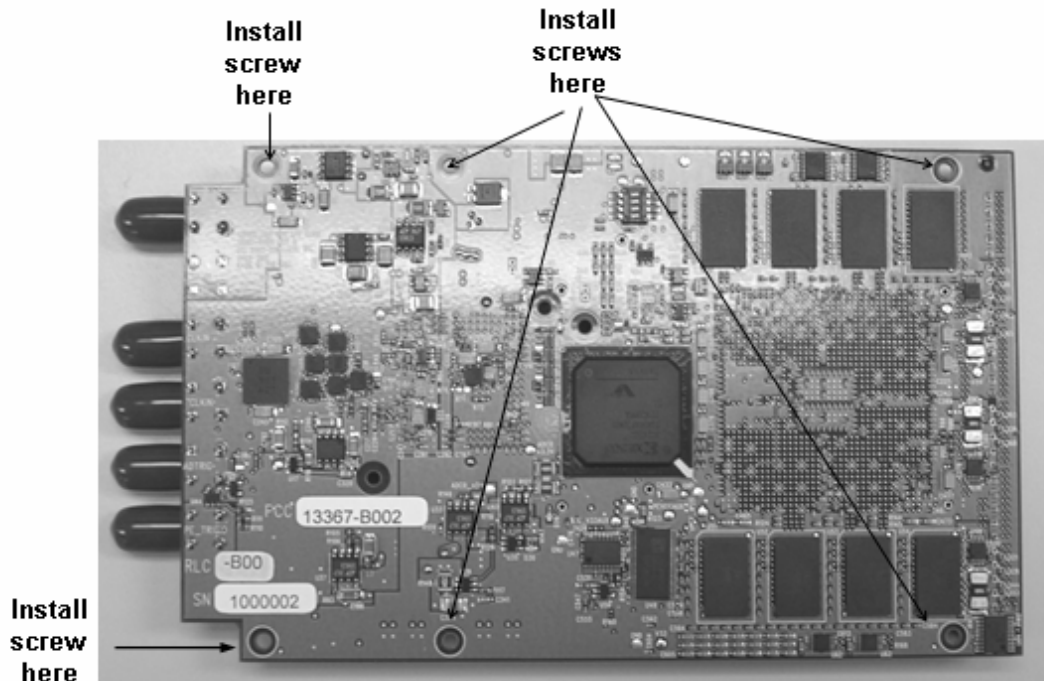

Figure 4-2: PRO GHz A/D I/O Card (Component Side) Screw Locations
13. Secure the card with four of the hex screws provided (see Figure 4-2).